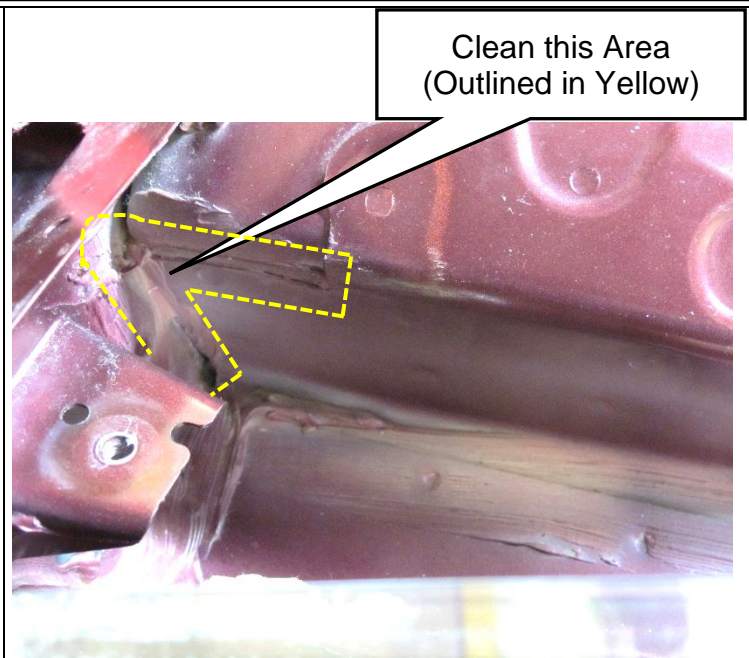

Figure 15
- Using a clean lint free cloth and warm soapy water, clean the area to be resealed (Figure 15)